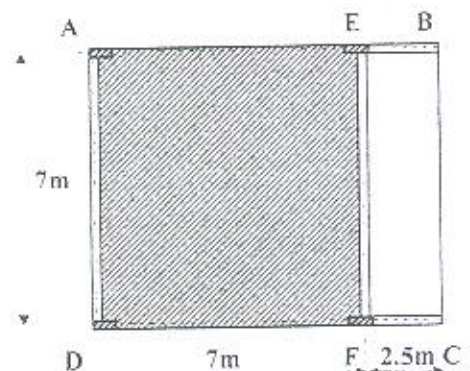

Fig. 3
- Fig. 3 shows a structural plan of roof ABCD. The roof is resting on the beams (AD and EF) and on the frames (EB and FC). The slab AEFD is dropped 100mm . The hollow-block slab system is required. The slabs is subjected to a live load $= 6\text{kN/m}^2$ and a flooring cover $= 1.8\text{kN/m}^2$. The cross section of all beams is $250 \times 600\text{mm}$. Materials: $f_{cu} = 40\text{MPa}$, $f_y = 400\text{MPa}$. It is required to carry out the following: